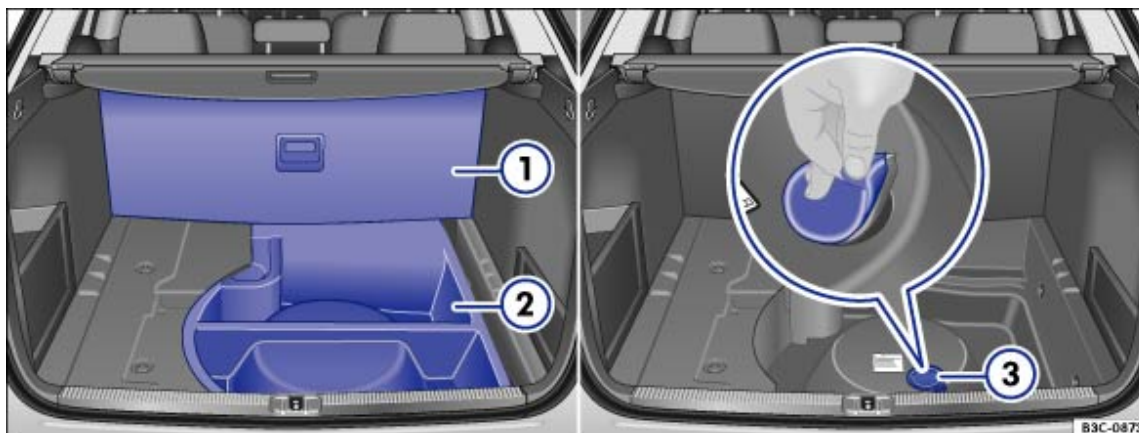

Fig. 190 Luggage compartment with foam rubber component and AdBlue tank
- Lift up or push back the floor covering → Fig. 190 ① .
- Remove the foam rubber component → Fig. 190 ② .
- Remove the stopper → Fig. 190 ③ from the AdBlue tank.
- Carefully replace the stopper → *Fig. 190 ③*.